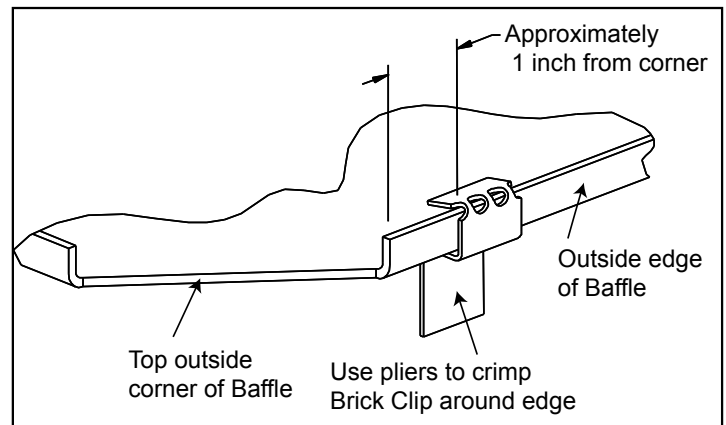
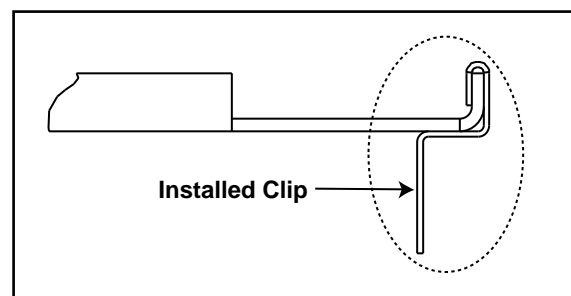

Figure 20.4
Figure 20.5
3. Using pliers, bend the brick clip slightly past 90° in the direction shown in **Figure 20.4**.
4. Position the brick clip as shown in **Figure 20.4** and use pliers to crimp around the outside edge of the baffle as shown in **Figure 20.5**.
Note: Figure 20.5 shows the finished shape of the brick clip, after being bent around the outside edge of the baffle.